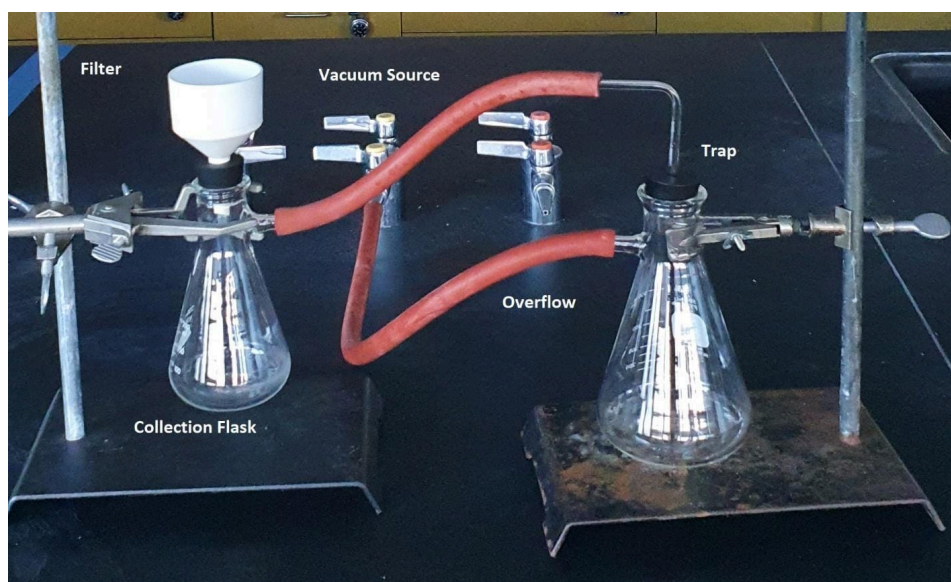

Figure 6.1.2: Vacuum filtration trap assembly.
13. Set up a vacuum filtration apparatus consisting of a Büchner funnel, rubber adapter, filter flask, safety trap flask, and vacuum hose (Figure 6.1.2).